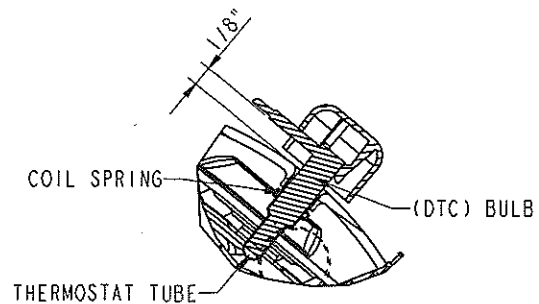

Figure 6. Bulb installation on top of the compressor
c. Spread a thin film of *thermal grease* around *DTC bulb*, and press fit *DTC bulb* into *thermostat tube* on top of the compressor until the bulb bottoms out in the *thermostat tube*. (install by hand, do not use excessive force.) Copper tube from the *DTC bulb* should be approximately [1/8"] off the top of the compressor. Take care and avoid damaging or scratching the bulb. Please see figure 6.
d. Snap *thermal cap* onto *DTC bulb* on top of the compressor. If there is a need to remove the *thermal cap* due to space limitations, replace the *DTC bulb* with provided *insulation tape* piece. Please see figure 6.